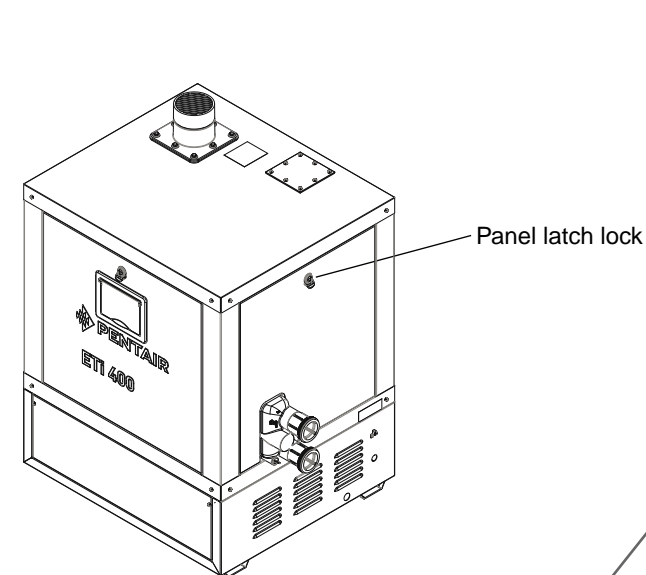

Figure 33.
- Connect the BLUE PLUG (120 VAC) into the 12-pin plug located on the electrical panel, see Figure 33).
2. Remove the front side door panel, see Figure 33 on page 40.